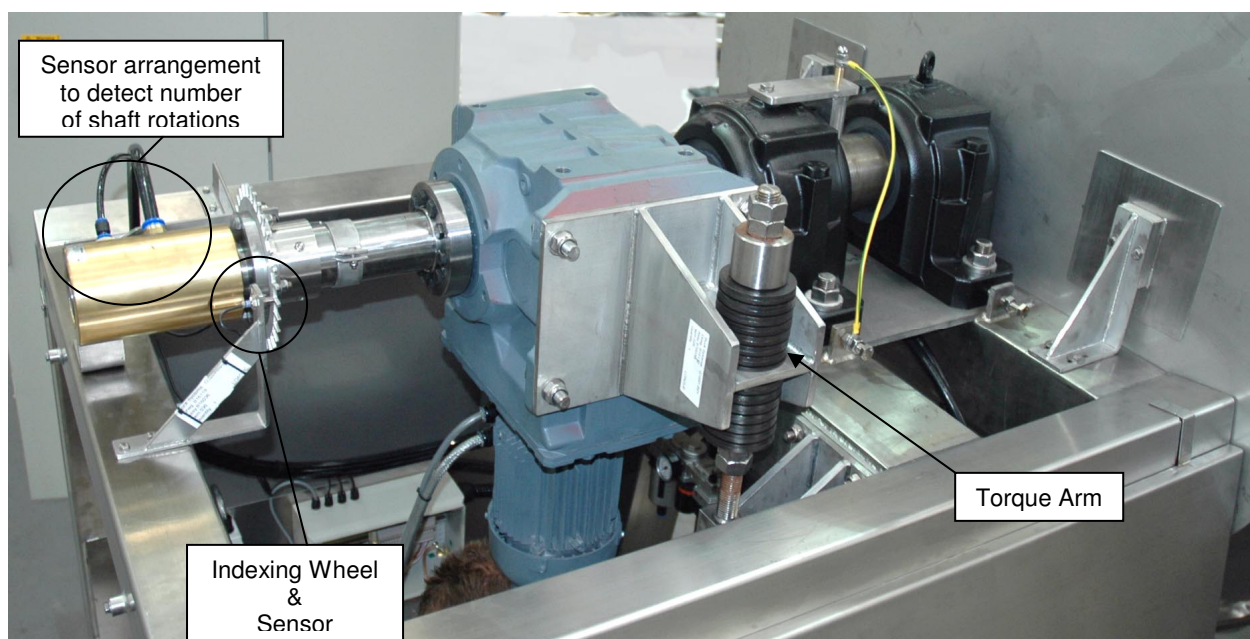

Fig 6 - Blender (left side) – Rotating Cage shaft, indexing wheel, gearmotor and bearing blocks
- Speed of rotation is detected by a base-frame mounted sensor, which senses the passage of teeth on a 30 tooth indexing wheel mounted on the drive shaft (Fig 6).